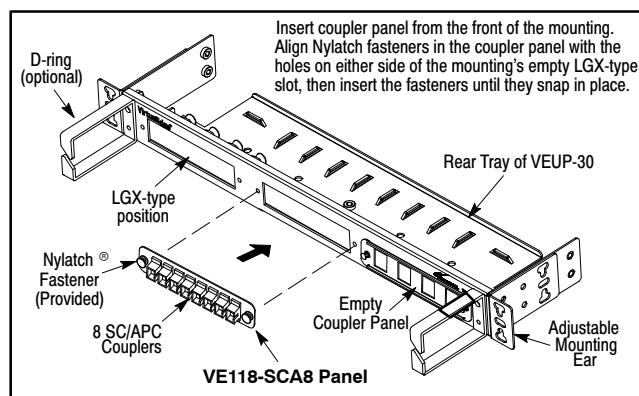
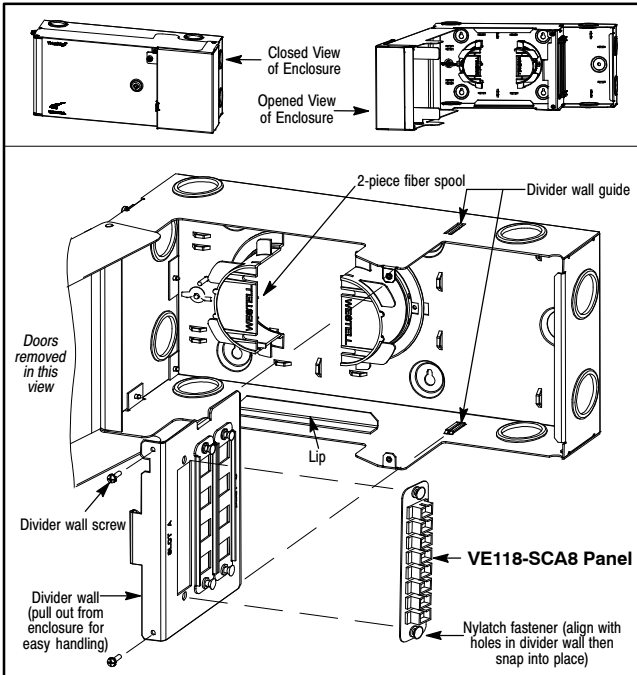

Figure 2. Installing VE118-SCA8 Panel in a VEUP-30
Figure 3. Installing Panel Inside a VEUE-30 Enclosure
The VirtualEdge (VE) VE118-SCA8 is a panel which contains eight SC/APC couplers secured in an LGX-sized faceplate that can be installed in Westell VirtualEdge mountings. As shown in Figure 2 and Figure 3, this panel mounts in a VirtualEdge mounting or enclosure that contains LGX-sized cut-outs or positions. Two provided snap-in Nylatch® fasteners are used to secure the panel in the mounting. See Table 1 below for model numbers of specific Westell VirtualEdge mountings which accept the panel.
Always follow local company practices and procedures when installing equipment. If none exist, follow the steps below to install the panel. Consult Figure 2 and Figure 3 as needed while performing these steps.